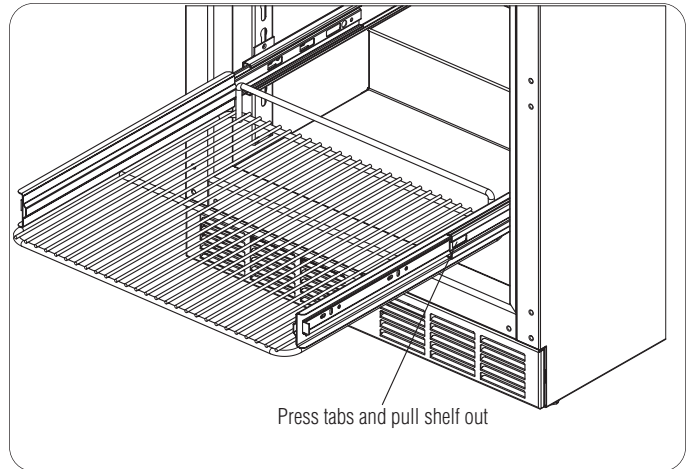

Figure 4. Sliding Shelf Extender Tabs
1. Pull the shelf out to its farthest position. Locate the tabs in the middle of both extenders (Figure 4). Press tabs and pull shelf out.